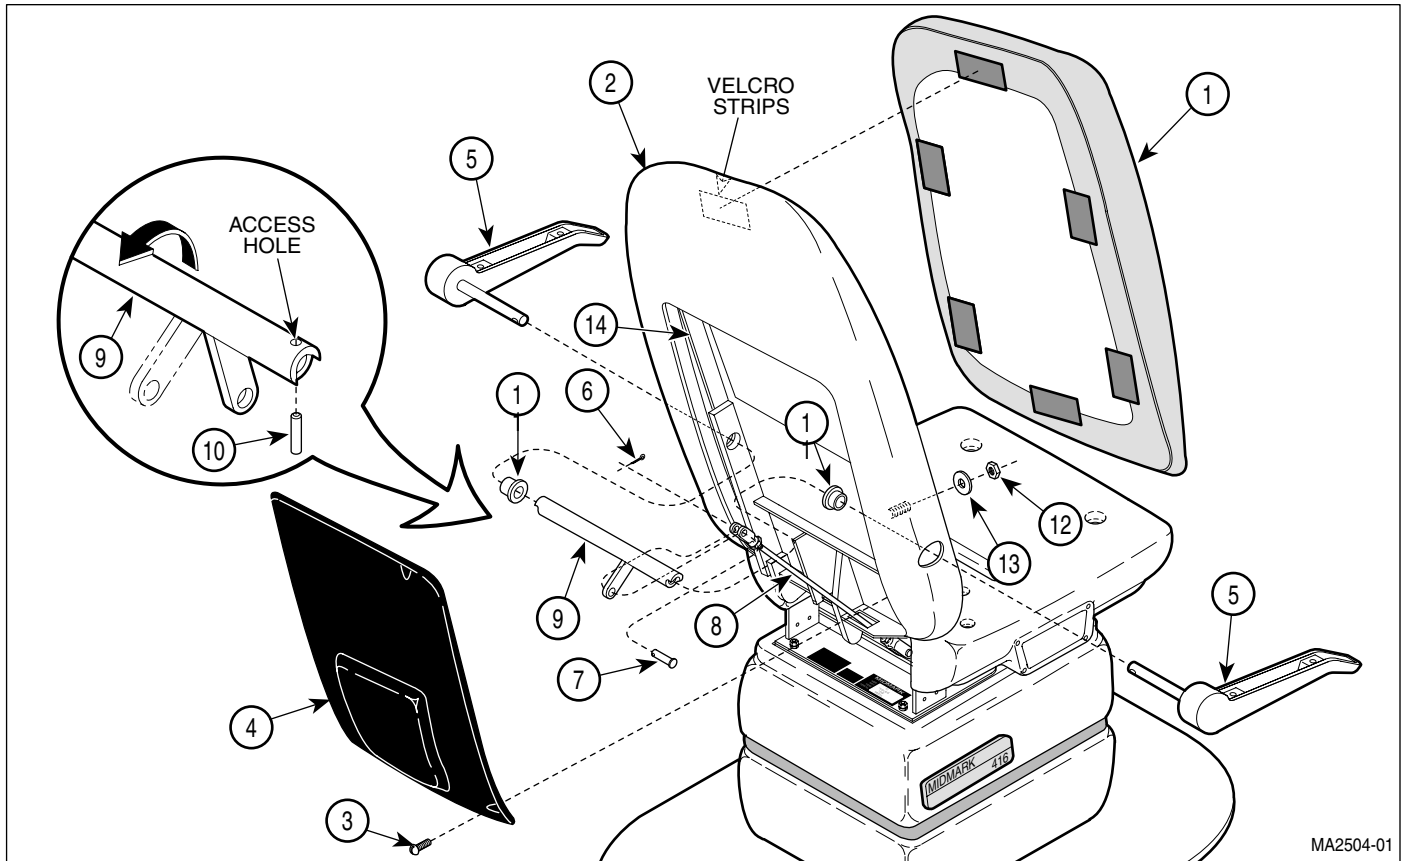

Figure 4-18. Plastic Back Section
- (2) Unplug power cord from wall receptacle.
- (3) Remove upholstered back section (1, Figure 4-18) from plastic back section (2).
- (4) Remove four screws (3) and back cover (4) from plastic back section (2).
- (5) While supporting arm castings (5), remove cotter pin (6), clevis pin (7), and disconnect clevis (8) from arm tube weldment (9). Lower arm castings.
- (6) Rotate arm tube weldment (9) downward as far as it will go, so a punch can be inserted thru access hole in arm tube weldment.
- (7) Raise or lower arm casting (5) slightly, until punch is aligned with groove pin (10); then drive groove pin out of arm tube weldment (9).
- (8) Repeat step 7 for other arm casting (5).
- (9) Remove two arm castings (5), arm tube weldment (9), and two flanged bearings (11).
- (10) Remove four nuts (12), washers (13), and plastic back section (2) from back weldment (14).
- (1) Install plastic back section (2, Figure 4-18) on back weldment (14) and secure with four washers (13), and four nuts (12). Tighten nuts until firm; then tighten an additional $\frac{1}{3}$ turn.
- (2) Install one flanged bearing (11) in each side of back weldment (14).
- (3) Install arm tube weldment (9) and arm castings (5) on back weldment (14).
- (4) Install one groove pin (10) in each end of arm tube weldment (9), making sure knurled end of groove pin is inserted into arm tube weldment first.
- (5) Connect clevis (8) to arm tube weldment (9) with clevis pin (7) and cotter pin (6). Bend end of cotter pin over.
- (6) Adjust arm castings (5) height if necessary (Refer to para 4.13).
- (7) Install back cover (4) on plastic back section (2) and secure with four screws (3).
- (8) Making sure velcro strips are aligned, install upholstered back section (1) on plastic back section (2).
- (9) Plug power cord into wall receptacle.